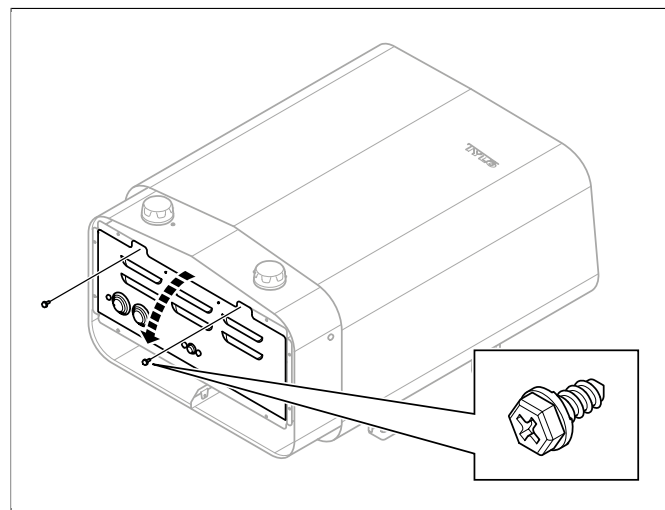

Figure 5: Opening/closing the cover
2. Slacken the screws and open the cover (see **Figure 5**, Page 3).
4. Close the cover and tighten the screws (see **Figure 5**, Page 3).